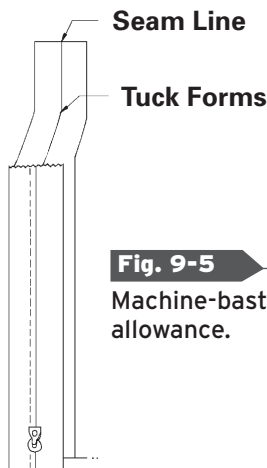

Fig. 9-5
9. On the inside of the garment, machine-baste the zipper to the seam allowance only, sewing from the bottom to the top of the zipper and stitching $\frac{1}{8}$ inch (3 mm) from the zipper teeth. (Fig. 9-5)